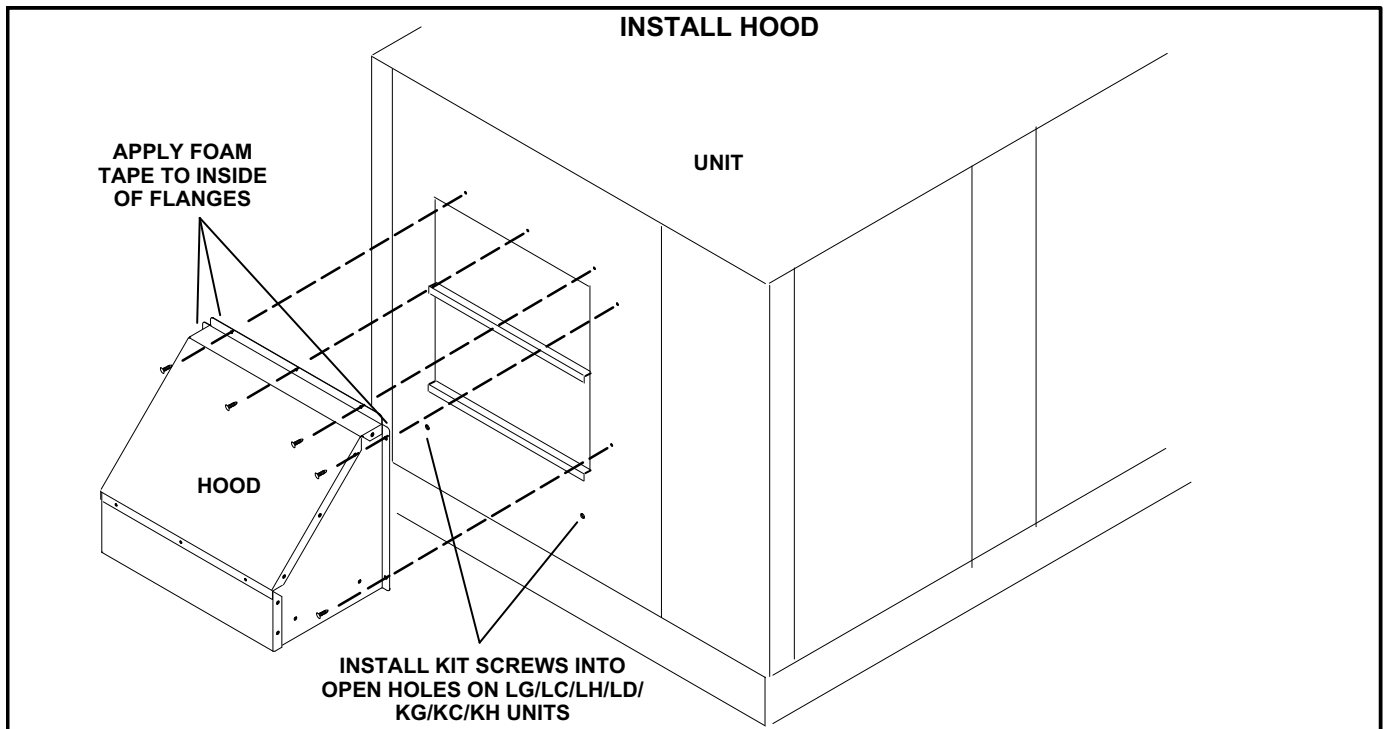

FIGURE 17
- 3- Secure hood to unit as shown in figure 17.
- 4- Install kit screws into the two open holes on the end panel below the hood. See figure 17.